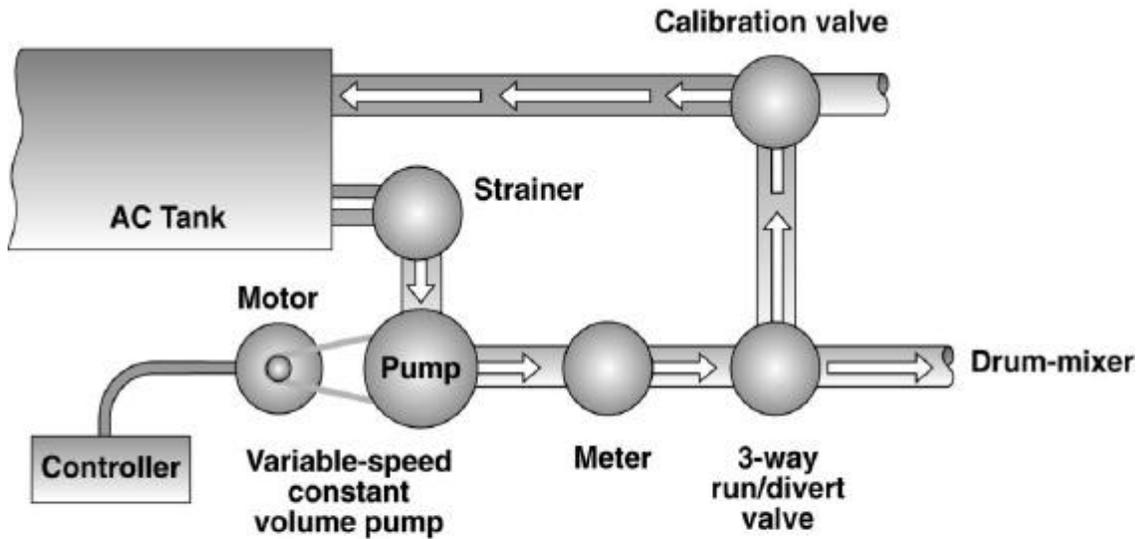

Figure 4.27 Asphalt metering system for drum-mixer plants with variable speed, constant volume pump.
- A constant-volume, variable-speed pump. The asphalt flow control is accomplished by varying the speed of the pump as shown in figure 4.27.